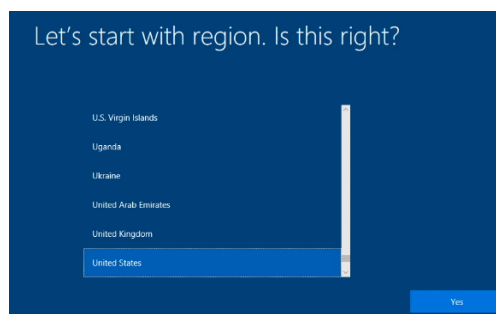

FIGURE 85: TESTOUT CORP. (2020, JANUARY 14). TESTOUT PC PRO (SECTION 10.3.4). RETRIEVED FROM [HTTP://WWW.TESTOUT.COM](http://www.testout.com)
11.3.7. (See Fig. 85) On the next screen, you will be asked to select your region. Select your region, then click the Yes button.